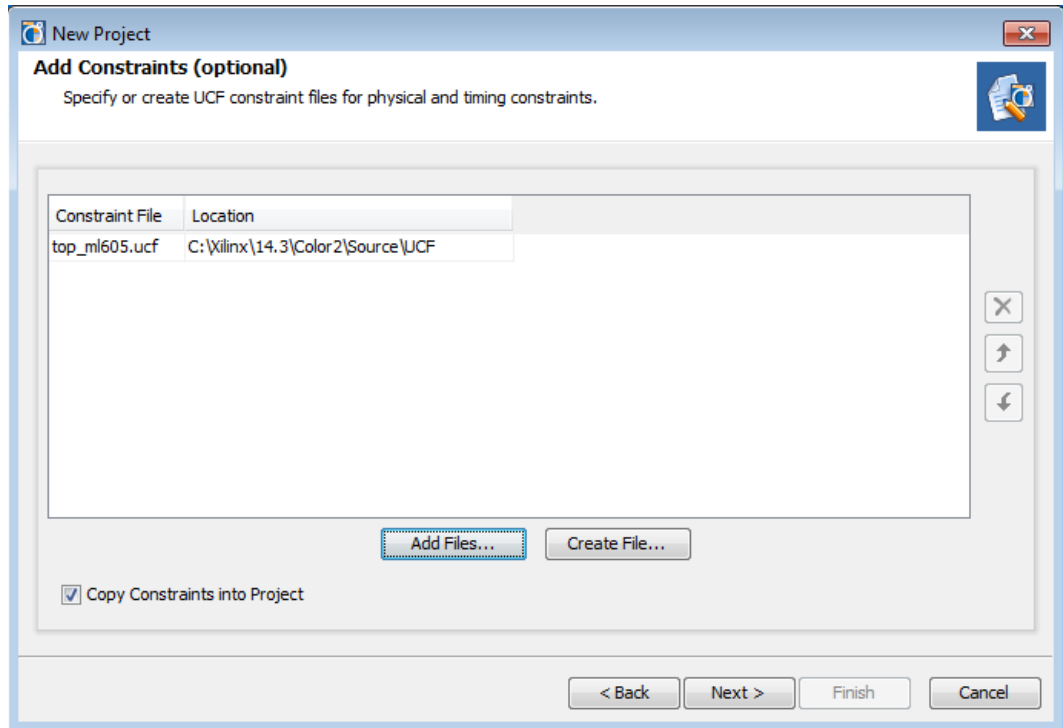

Figure 4-3: Add Constraints Dialog Box
3. Add the top-level constraints files, which should include I/O and Timing constraints. More than one UCF can be used. The PlanAhead software concatenates all top-level UCF files along with module-level UCF files before launching implementation runs. Figure 4-3 displays the **New Project > Add Constraints** dialog box.